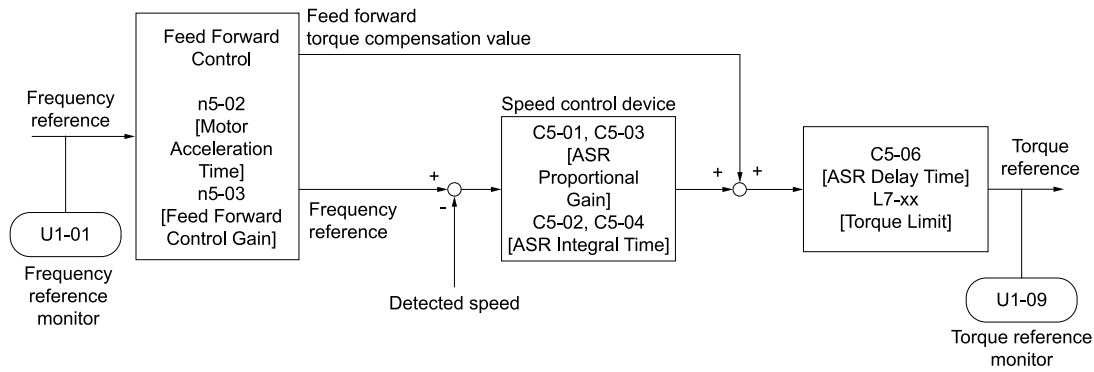

Figure 12.130 Configure Feed Forward Control
Increase the values set in *C5-01* and *C5-03* [ASR Proportional Gain] to apply feed forward control to machines that have low rigidity and are possible to have hunting and vibration or to machines that have a large quantity of inertia. Refer to Figure 12.130 for more information about parameters related to feed forward control.
- If you cannot do Inertia Tuning, refer to Figure 12.130 and set the parameters related to feed forward control individually.